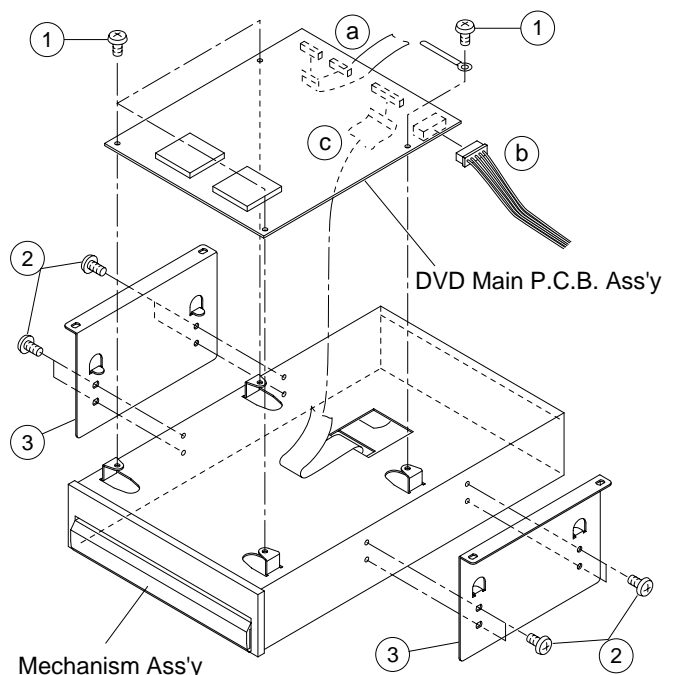

Fig.2-5
2.4 DVD Main P.C.B. Ass'y (Refer to Fig. 2-5)
2.5 Mechanism Ass'y (Refer to Fig. 2-5)